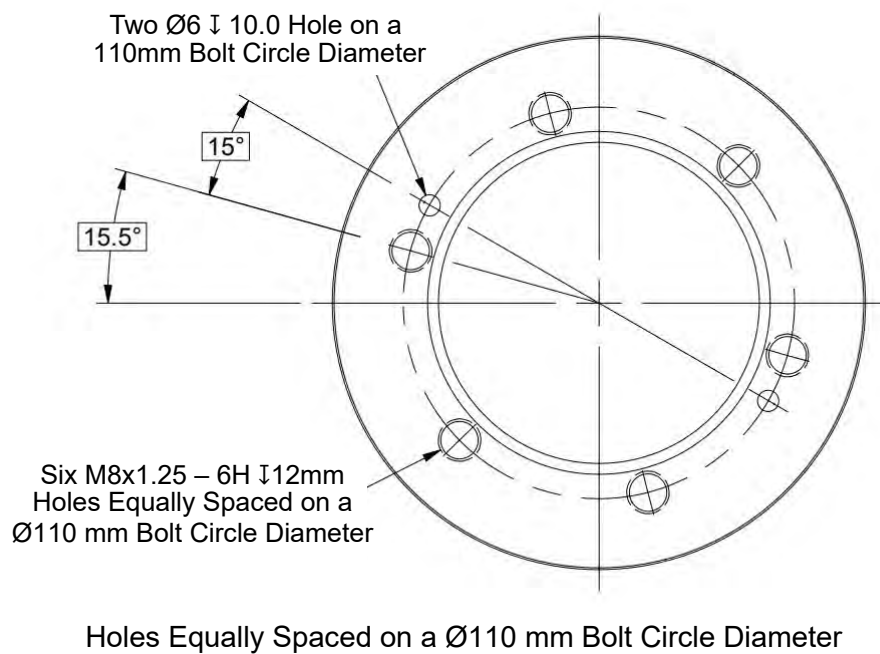

Figure 5-21 Mounting Hole Pattern (4-M P/N: 7121110001 Shown)
4. Properly secure the payload to the mast with customer-provided M8 high strength hardware. Choose the appropriate length of screw in order to allow maximum thread engagement with the threaded inserts. The standard Payload Interface has six M8x1.25 – 6H \downarrow 12mm holes (Figure 5-21). If required, the $\varnothing 6 \downarrow 10.0$ hole may be used for orientation. The mounting hardware must include proper means to resist vibration loosening such as thread-locking compound and/or locking hardware. Torque all hardware as appropriate for its size and grade.